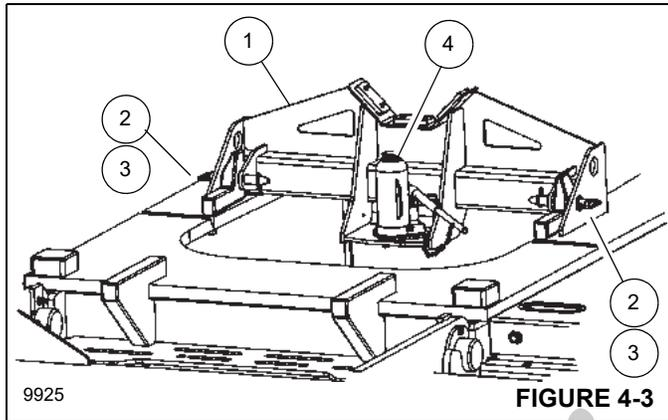
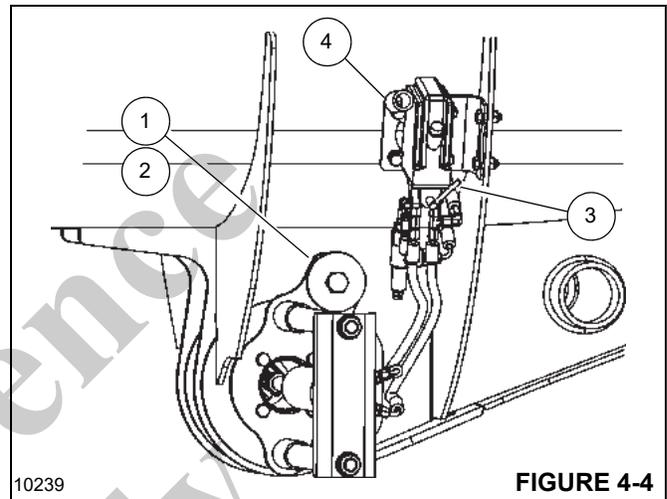
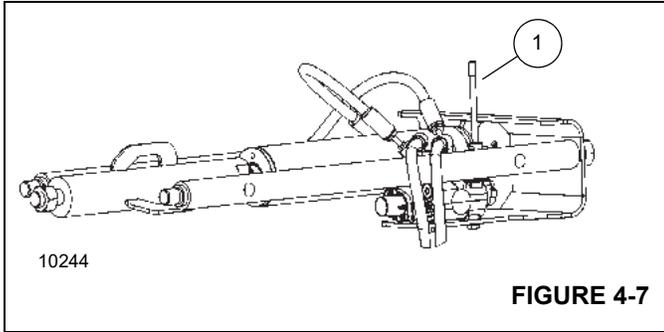

FIGURE 4-3
FIGURE 4-4
FIGURE 4-7
11. If necessary, install the lift cylinder support (1, Figure 4-3) on the carrier as follows:
14. Remove capscrew (1, Figure 4-4) and washer (2) that secures pin.
15. Turn the direction lever (3) to the correct position. Use the hand pump (4) to remove the lift cylinder pivot pin. Tag and identify the locations of shims.
16. Use bottle jack (4, Figure 4-3) on the lift cylinder support (1) as necessary to adjust the position of the lift cylinder pivot pin.
21. For the right side pin, move the control handle (1, Figure 4-7) on the removal tool to retract the pin.
22. For the left (cab) side pin, move the control hand (1) on the removal tool to retract the pin.
- c. For the right side pin, move the control handle (1, Figure 4-7) on the removal tool to extend the pivot pin.
- d. For the left (cab) side pin, move the control hand (1) on the removal tool to extend the pivot pin.
- e. For the right side pin, disconnect the removal tool hydraulic connections (4 and 5, Figure 4-4) and remove the hydraulic tools.
- g. For the right side pin, secure the pivot pin to the superstructure with busings (2, Figure 4-4) and capscrews (1). Torque the capscrews. For more information, see *Fasteners and Torque Values*, page 1-16.
11. Turn the direction lever (3, Figure 4-4) to the correct position. Use the hand pump (4) to install the lift cylinder pivot pin. Use the hand pump (4) and bottle jack (4, Figure 4-3) on the lift cylinder support (1) as necessary to adjust the position of the lift cylinder rod end is centered on the pivot pin.
13. Install washer (2) and capscrew (1) to secure the lift cylinder pin. Torque the capscrew (1). For more information, see *Fasteners and Torque Values*, page 1-16.